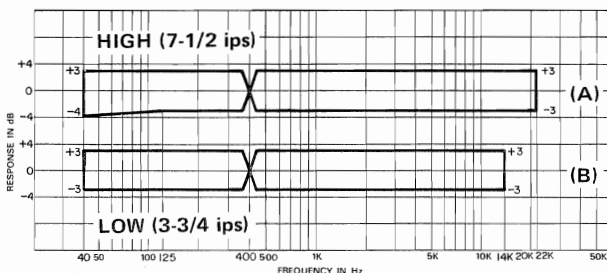

Fig. 8-4 Frequency Response – PLAYBACK –
19. Play Tape and compare reading on VTVM with the response limits given in Fig. 8-4 (A).
22. Play the tape and compare the readings on the VTVM with the response limits given in Fig. 8-4 (B).